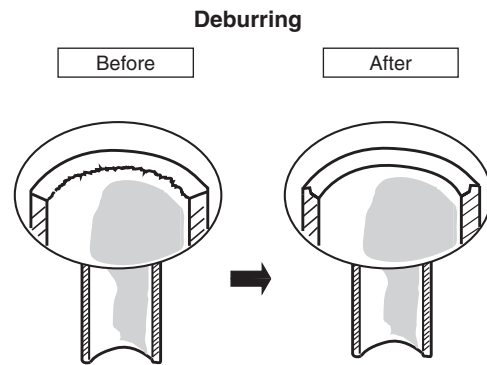

Fig. 5-1
- (1) Cut the copper tube to the required length with a tube cutter. It is recommended to cut approx. 1 – 2 ft. (30 - 50 cm) longer than the tubing length you estimate.
- (2) Remove burrs at the end of the copper tube with a tube reamer or file. This process is important and should be done carefully to make a good flare. (Fig. 5-1)